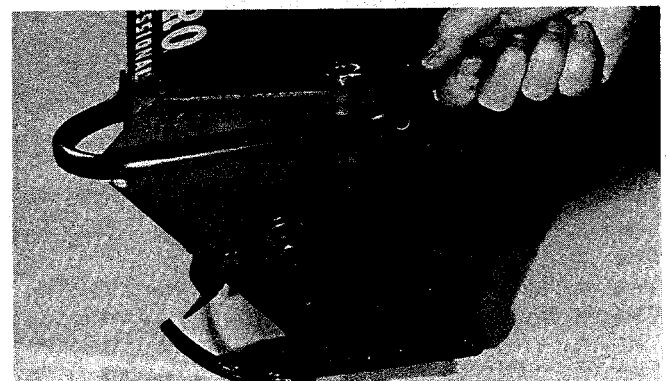

Figure 10
13. Adjust cutting unit reel to bed knife to assure proper cutting performance will be achieved. (Fig. 10). Refer to Reel Adjustment, page 14, for proper adjustment procedures.